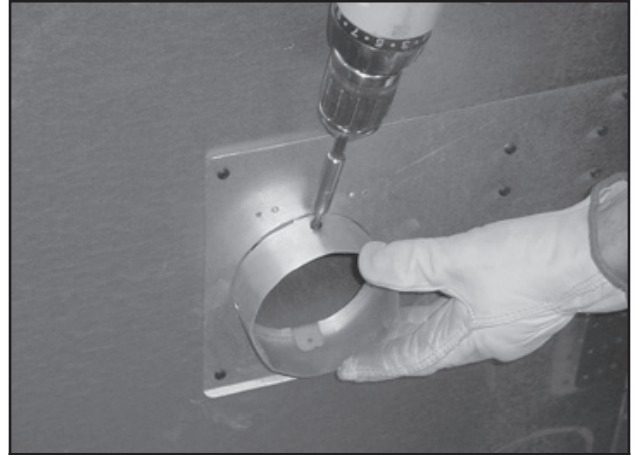

Figure 3.18 Attaching Outside Air Kit Collar
- Position ring over tabs and screw in place. See Figure 3.18.